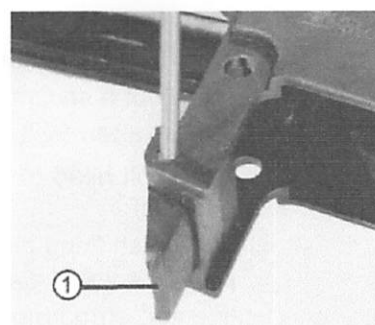

Fig. 40 Replacement of magazine catch
- ⇒ Using a drift punch, drive out cylindrical pin downwards (Fig. 40).
- ⇒ Remove magazine catch forwards (Fig. 40/1), in doing so take care to avoid the loss of the compression spring.